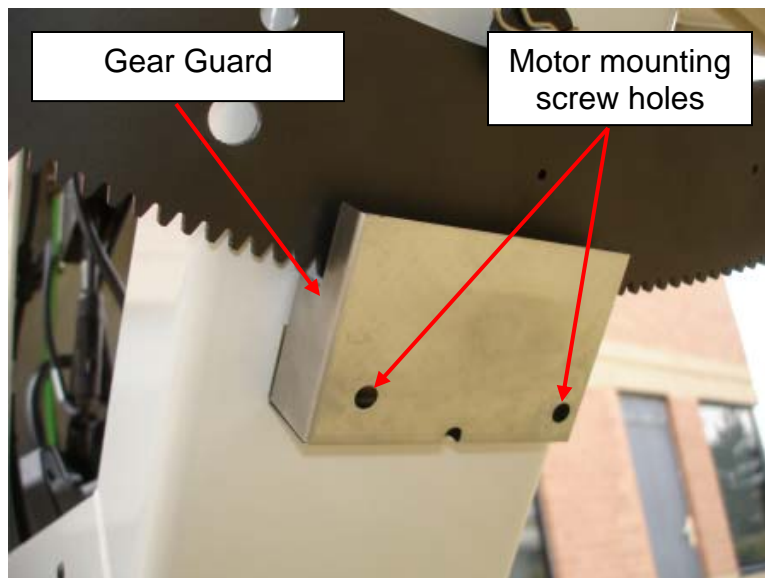

Figure 6
6. Install the Gear Guard by loosening the two motor mounting screws using a 4 mm Allen wrench, and sliding the Gear Guard to cover the motor gear. Re-tighten screws, ensuring lock washers are fully compressed. See Figure 6.